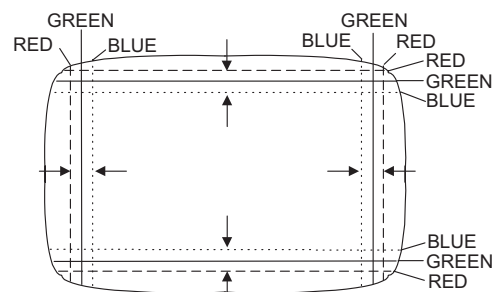

Fig.3
- (7) Adjust the gap between two lugs so that the GREEN RASTER will come into the center of the screen. (Fig.3)
- (8) Move the deflection yoke forward, and fix the position of the deflection yoke so that the whole screen will become green.
- (9) Insert the wedge to the top side of the deflection yoke so that it will not move.
- (10) Input a crosshatch signal.
- (11) Verify that the screen is horizontal.
- (12) Input red and blue raster signals, and make sure that purity is properly adjusted.
- (2) Move the deflection yoke left to right and overlap the lines in the periphery. (Fig. 3)
- (3) Repeat 1 and 2 above, and make best convergence.